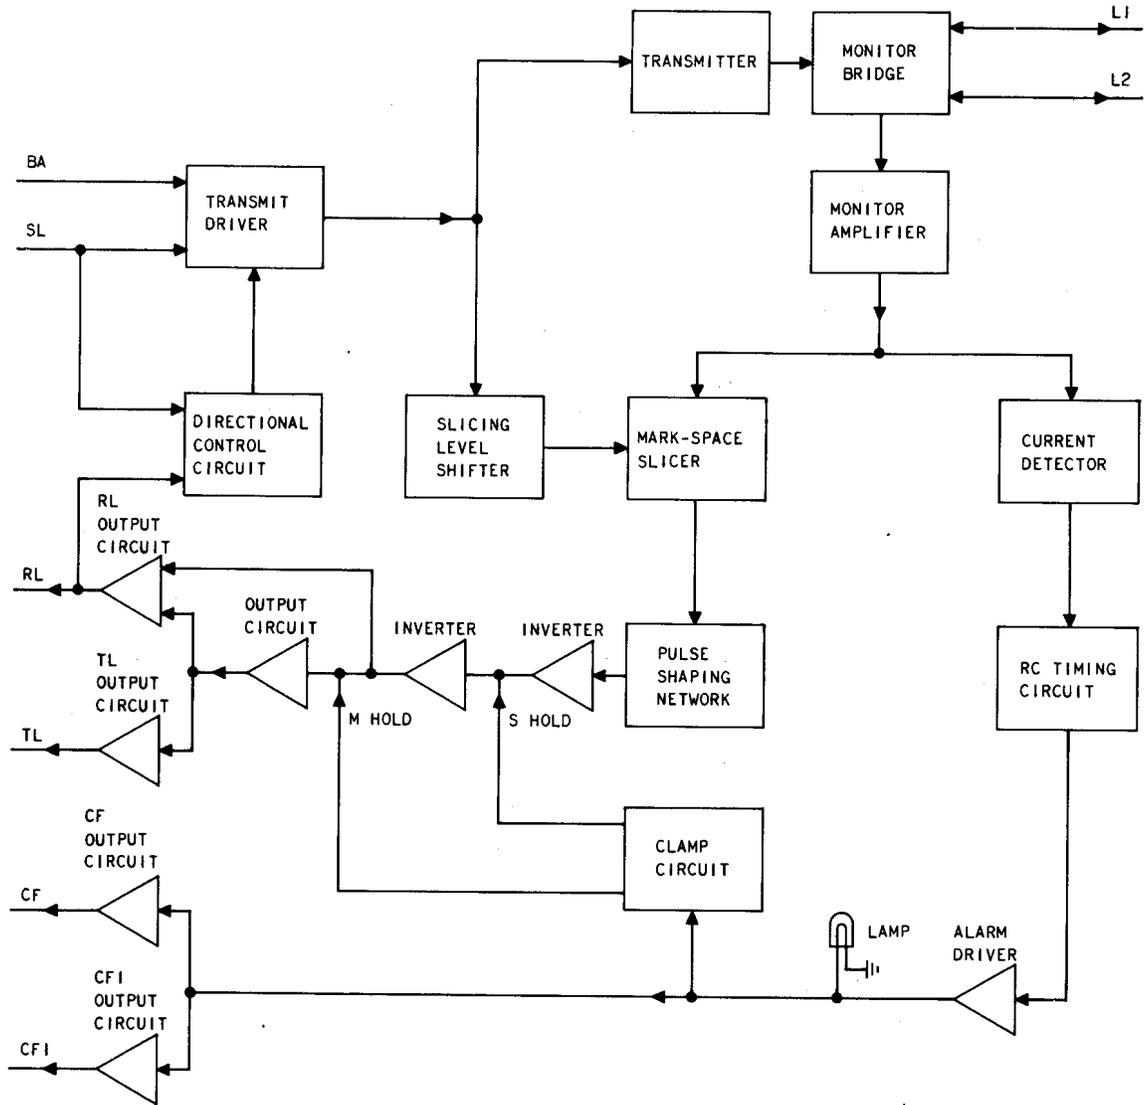

Fig. 5—Data Set 109G-L1—Functional Block Diagram
3.10 The data signals from the hub interface are applied through the send data lead (SL) of the Data Set 109G to the transmit driver (see Fig. 5). The output of the transmit driver is dependent upon the state of the input from the SL lead and the input from the directional control circuit (see 3.11 for information on the directional control circuit). The output of the transmit driver is fed to the transmitter and slicing level shifter. The output of the transmitter is applied through the monitor bridge and line pads to the metallic loop. The slicing level shifter is employed to maintain a constant slicing level with respect to the loop current when the data set transmitter changes from mark to space or vice versa.